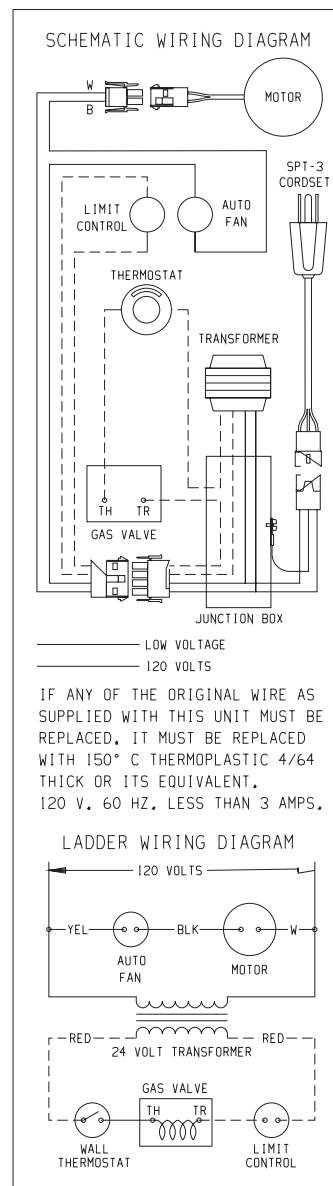

Figure 13
3. To check for line voltage to furnace, remove lower front panel and switch compartment cover and short across two-terminal fan control to allow fan to operate. (Figure 13)